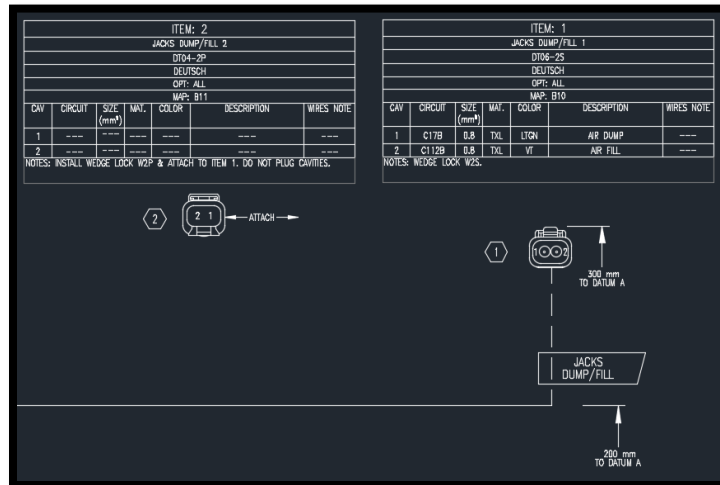

FIG. 6-2
17. Disconnect deutsch connectors (Item's 1 & 2) from Hadley ECU 6" Extension harness (4087-GG5-001) and remove wedge lock from item 2. Refer to FIG. 6-2.